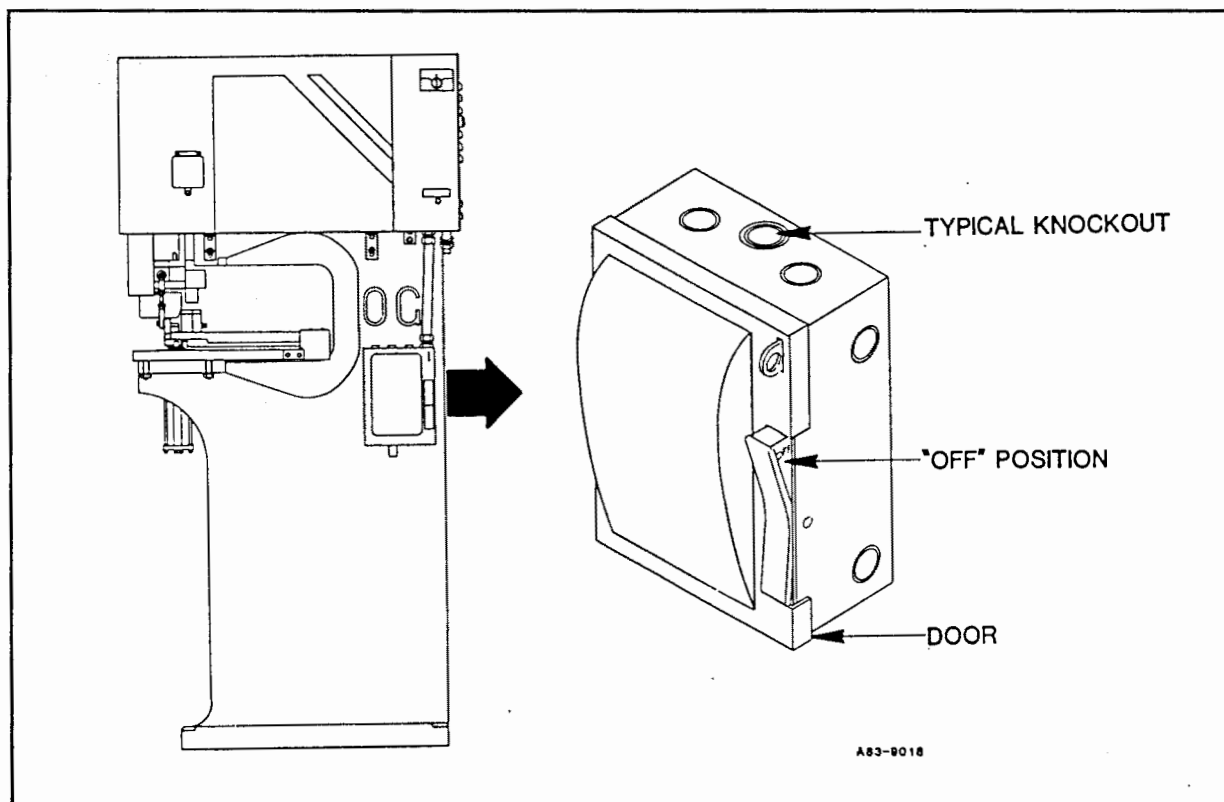

Figure 2.5 A
2. Turn disconnect switch to "OFF" position and open disconnect switch door. See Figure 2.5 A. Door will not open unless switch is off.
5. Open terminal door. See Figure 2.5 B.